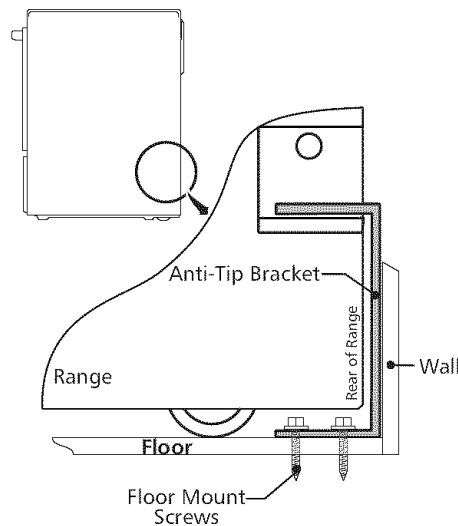

Figure 18
4. Remove template and place bracket on floor. Line up holes in bracket with marks on floor and attach with 4 screws provided. Bracket must be secured to solid floor (Figure 18). If attaching to concrete floor, first drill 3/16" (0,48 cm) dia. pilot holes using a masonry drill bit.